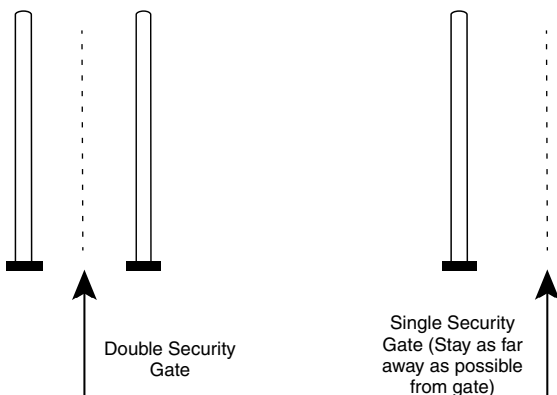

Figure 32. Approaching security gates
2. If patients must pass through the security device, they should approach the center of the device and walk normally (Figure 32).